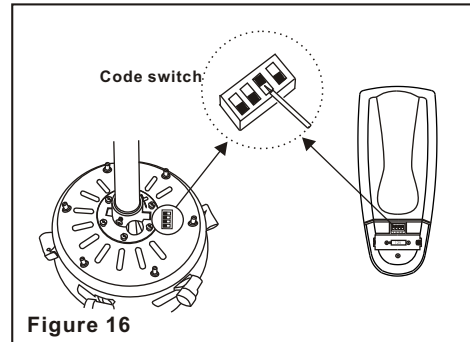

Figure 16
1. The receiver frequency selector is located on the top of the motor assembly plate as shown in Fig. 16.
2. The transmitter frequency selector is located in the battery compartment as shown in Fig. 16. Each frequency selector has 4 switches, you may use any number of possible combinations but you must set each switch in the transmitter to match the same switch in the receiver.